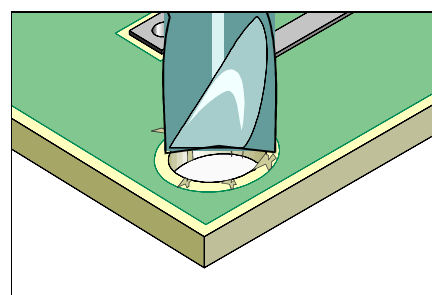

Figure 1: New hole is milled to encompass entire damaged area.
2. Drill out the damaged or improperly sized hole using a carbide end mill or drill. Mill the hole using a precision drill press or milling machine for accuracy. The diameter of the cutting tool should be as small as possible yet still encompass the entire damaged area. (See Figures 1 and 2).